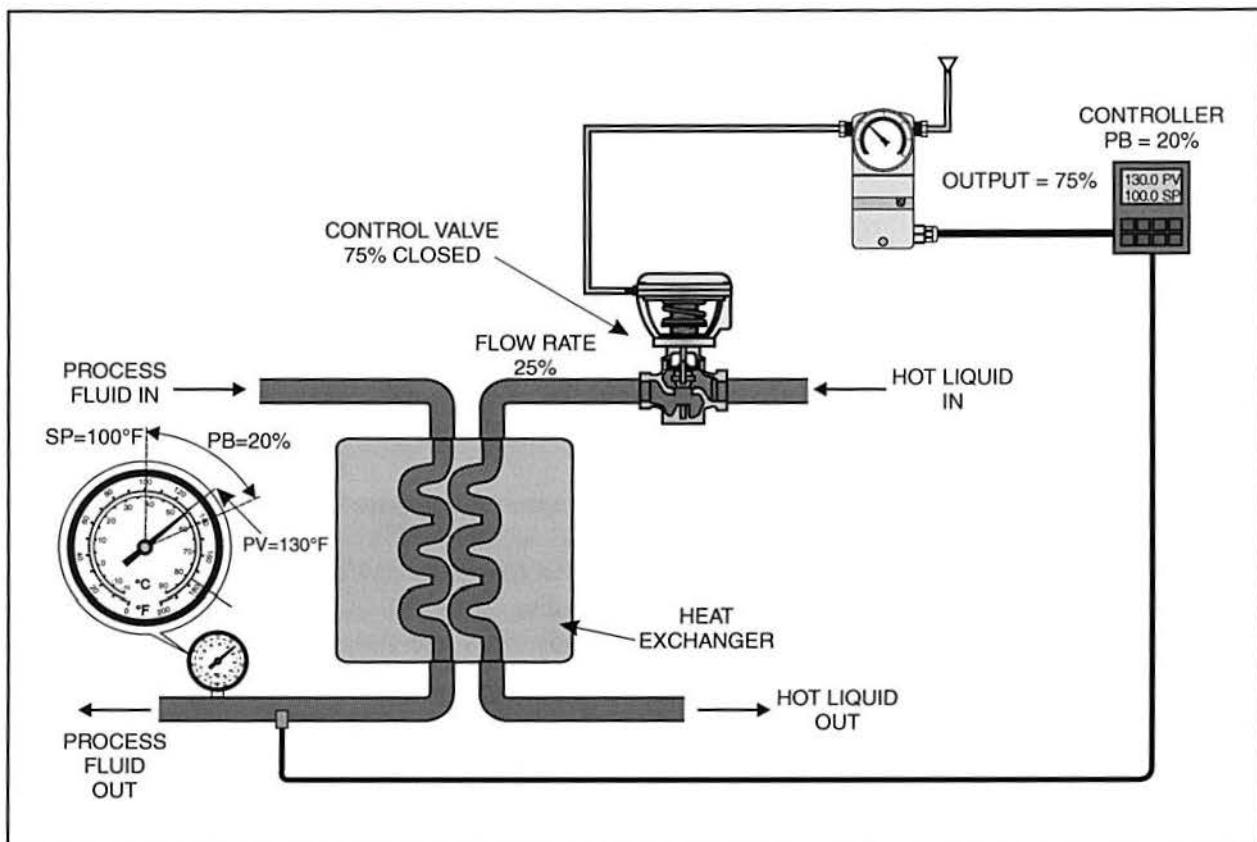

Figure 21. Temperature Control System with a PB of 20%
The proportional band (PB) better quantifies what happens with the process by describing the range over which the PV is proportionally controlled. For example, figure 21 shows a temperature control system that has an operating range from 0°F to 200°F. The controller has a setpoint of 100°F and a proportional band (PB) of 20%. The PB setting of 20% results in a band of 40 degrees in which the temperature is controlled proportionally. In this case, the proportional band lies between 100°F and 140°F and the PV reaches steady state at 130°F. Because the PB is fairly large, the offset (30°F) is also relatively large.